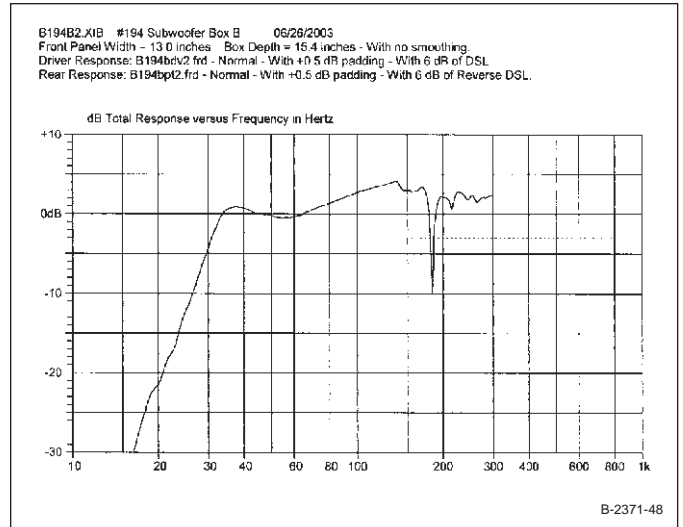
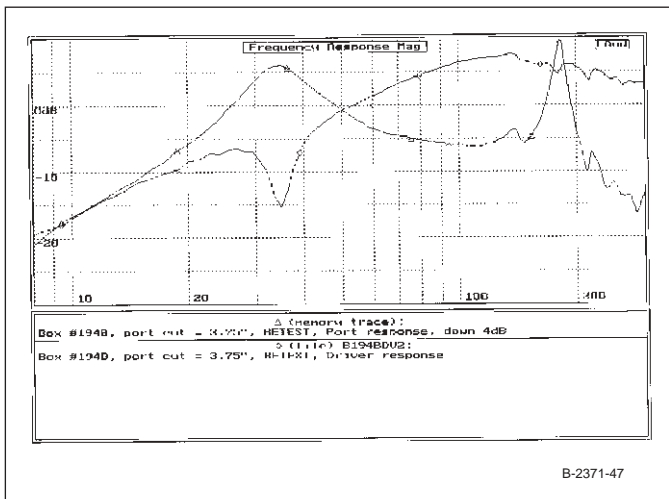
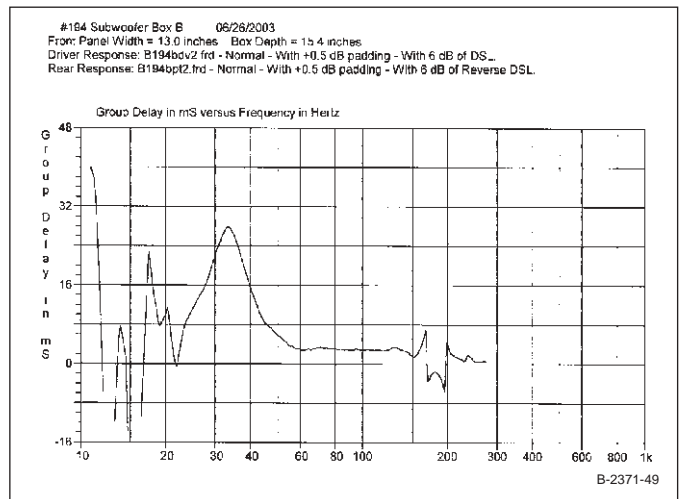

FIGURE 48: Measured system response for enclosure B.
FIGURE 47: Driver and port responses for retest of enclosure B.
FIGURE 49: Measured group delay for enclosure B.
*Figure 46* displays the input impedance measured during retest, which now resembles enclosure A. *Figure 47* includes the driver and port magnitude responses, which now show the deep driver response dip restored to  $f_B = 35\text{Hz}$ . This illustrates just how critical it is to make the port structure airtight. *Figure 48* is the measured system response for enclosure B, now a reasonable match for the response of enclosure A. *Figure 49* shows measured group delay results for enclosure B.